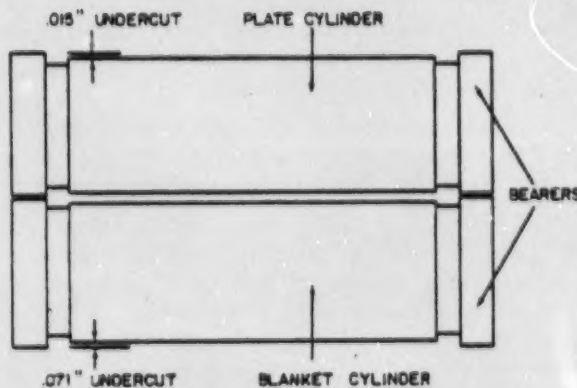

Figure 8-22. Cylinder undercuts.
Cylinder undercut	A recess of the surface of a cylinder relative to its bearer ring which allows space for the plate or blanket to be added plus any packing which might be needed (fig. 8-22).
Bearers	Steel bands encircling the outside edge of each cylinder and used to maintain correct separation between cylinder surfaces (fig. 8-22).
(1) *Cylinder undercuts.* Figure 8-22 illustrates the standard undercut on the plate and blanket cylinders on the ATF Model DP press.